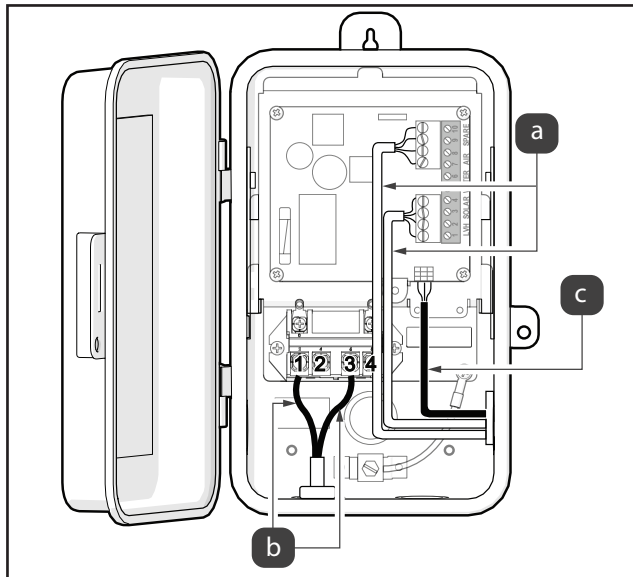

Figure 12. Pool Only Version, Connect Line Inputs & JVA Cable
2. Locate the two input power cables that come from the breaker, see Figure 12 (a).
3. Connect one 'Line' input to Terminal 1 and the other to Terminal 3, see Figure 12 (b).
5. Connect JVA cable, see Figure 12 (c).